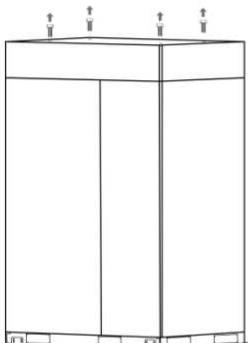

Figure.1
1. Remove four M30*40 hexagon screws that are preset at the factory to prevent dust or other foreign objects entering the equipment. See the Figure.1.